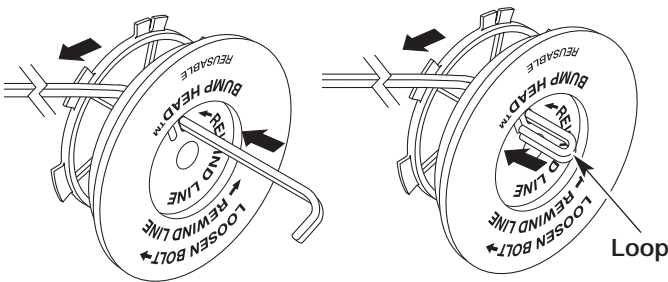

Fig. 57
- Take approximately 2.5 m (8 feet) of new trimming line. Insert one end of the line through one of the two holes in the inner reel (Fig. 57). Pull the line through the inner reel until only about 4 inches is left out.
- Insert the end of the line into the open hole in the inner reel and pull the line tight to make the loop as small as possible (Fig. 57).